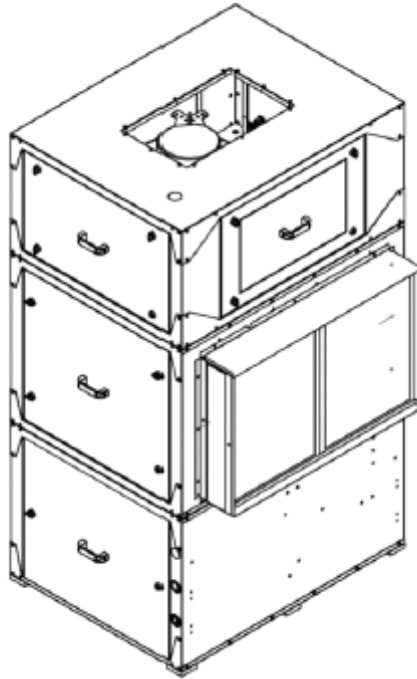

Figure 21 - QV (4-15) ton showing location of Air Balance Ports
5. Use a magnehelic or inclined manometer or a differential pressure meter to measure the air pressure drop across the evaporator and reheat coil (ports #1 and #2). **Note:** Ensure test is performed with refrigeration off and evaporator coil dry. See Figure 21. Compare this value to the value printed on the airflow label on the side of the dehumidifier.